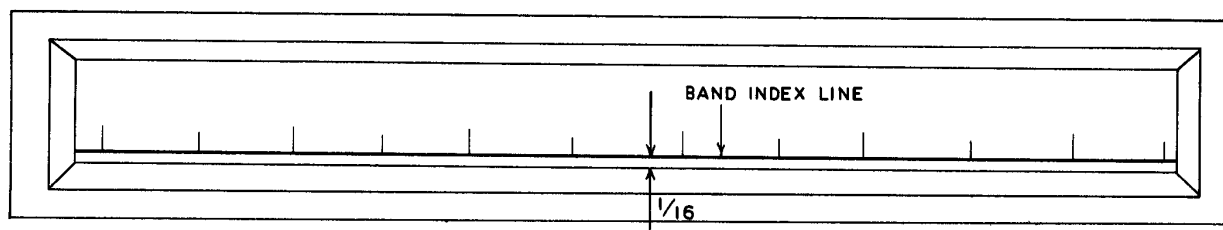

Figure 40
- () Referring to Figure 40, adjust the final dial drum position as shown by rotating the dial pulley on the band switch shaft until the proper position is obtained.